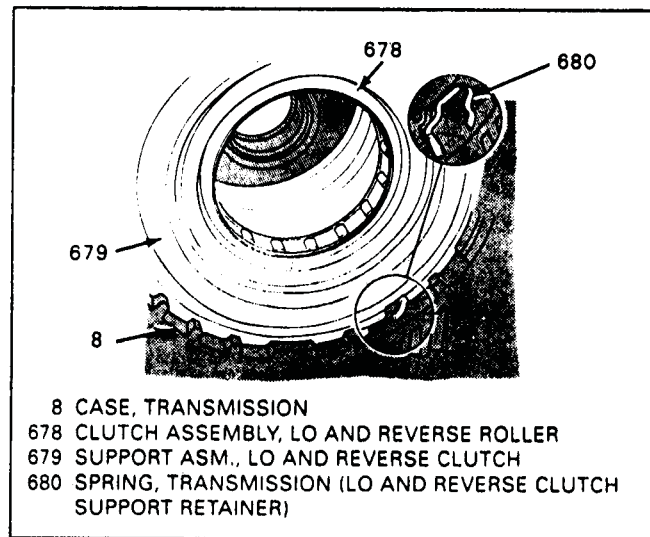

Figure 77
8. Install the anti-clunk spring into the case as shown in Figure 77, and retain with TransJel.
NOTE: Orient the snap ring around the anti-clunk spring as shown in Figure 77.